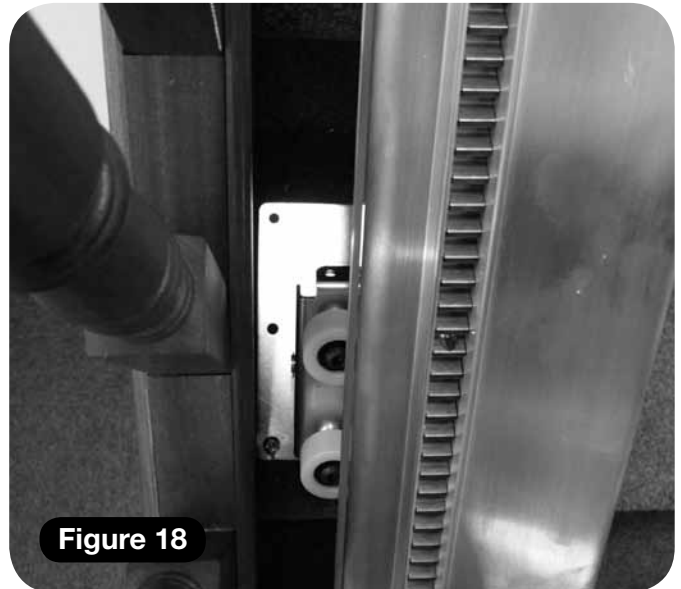

Figure 18
- 6** The feet should sit as close as possible to the stringer (**Figure 18**).